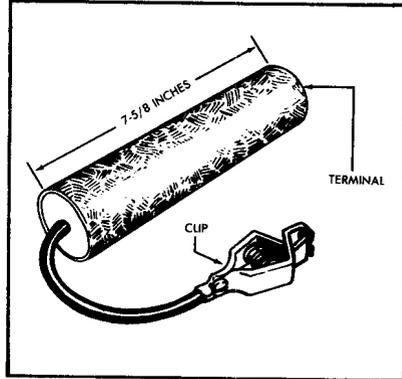

FIGURE 4. B Shunting Capacitor
5.05 For the condition mentioned in paragraph 5.04, the B Shunting Capacitor (Figure 4) is used to determine if the voltage present is excessive. To use the B Shunting Capacitor, proceed as follows: